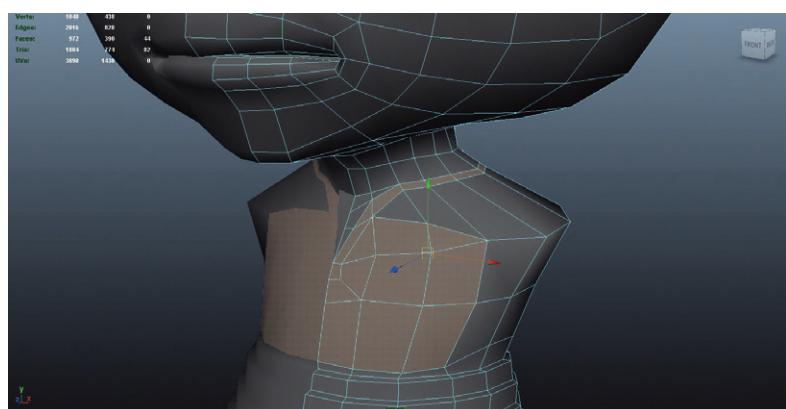

FIG 4.56 Selection needed to add new dimension to shirt and breast plate.
Step 74: Arrange or add geometry to the torso to allow for a selection as shown in Fig. 4.56. This selection corresponds to the shirt and breast plate.